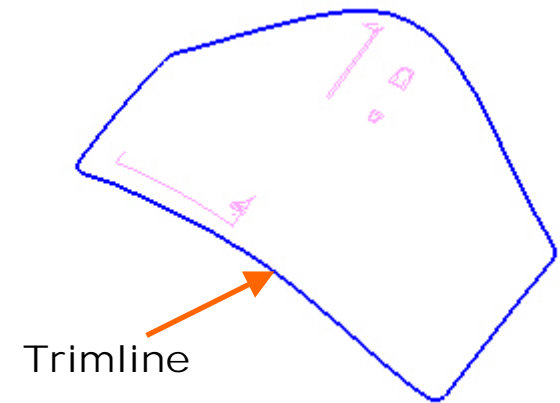

Figure 5.33
- f) Select trimline as shown in Figure 5.33